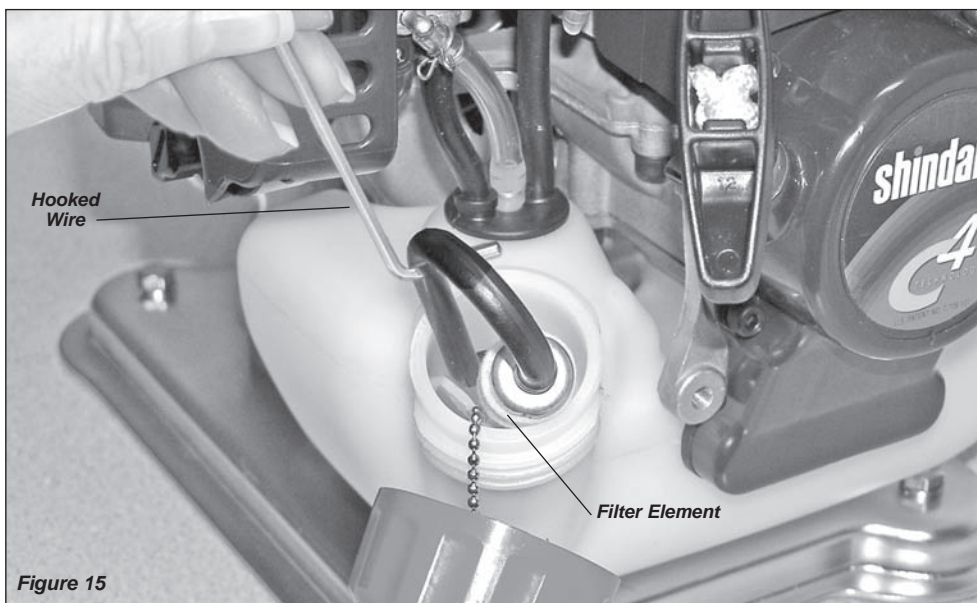

Figure 15
2. Use a hooked wire to extract the fuel filter from inside the fuel tank. See Figure 15.